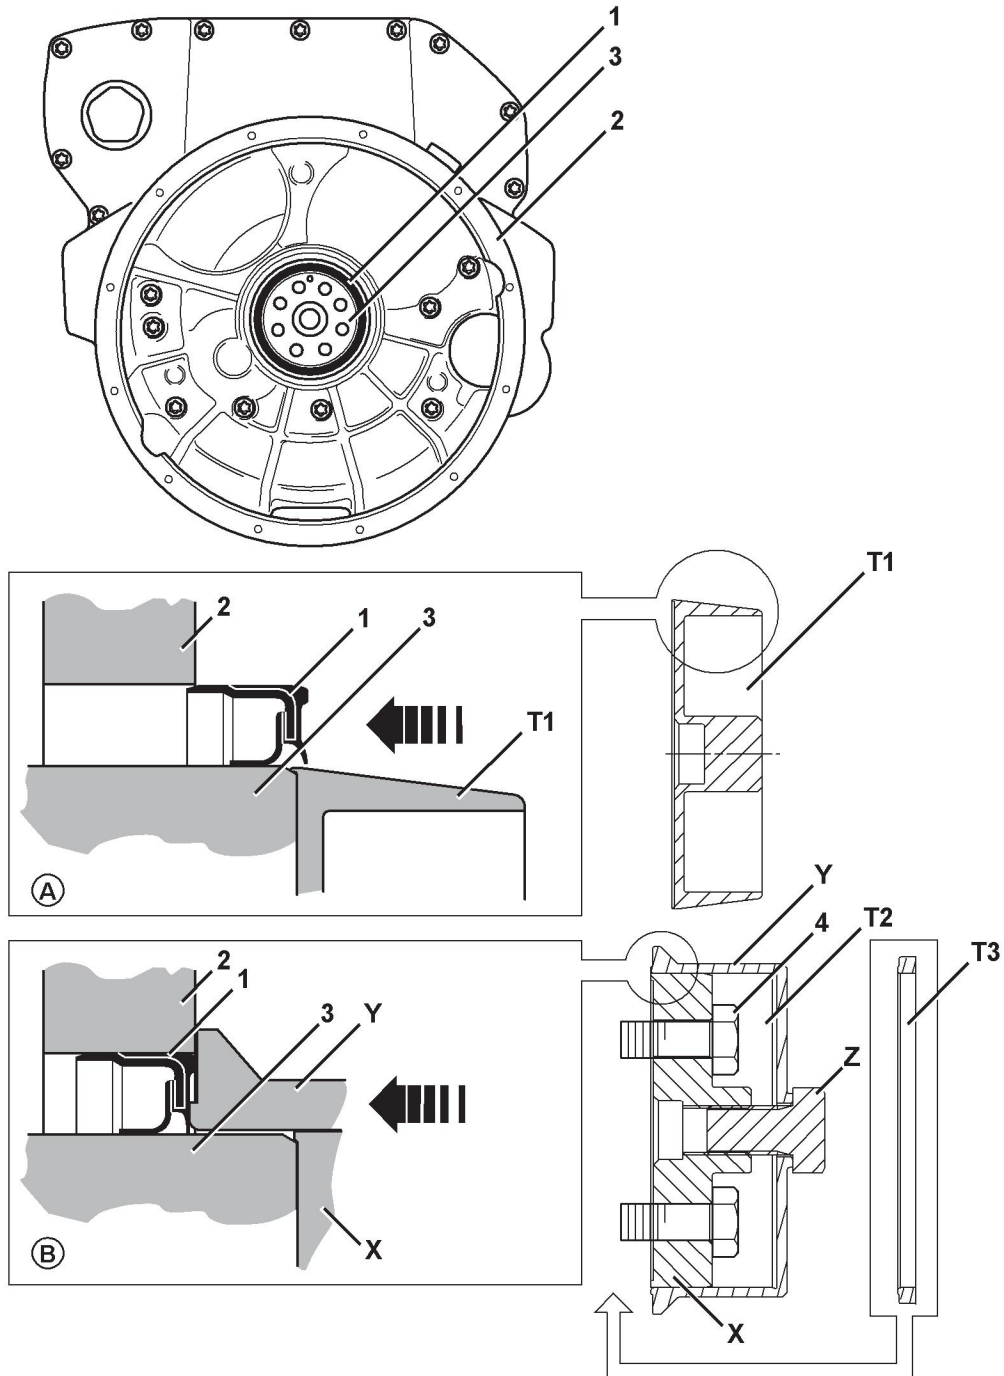

Fig 25.
⇒ Fig 25. (□ 12-49)
- 1 ⇒ Fig 25. (□ 12-49). Carefully prise out the oil seal **1** from the counterbore in the flywheel housing **2** using a suitable lever behind the lip of the seal. Take care not to scratch or damage the counterbore or the